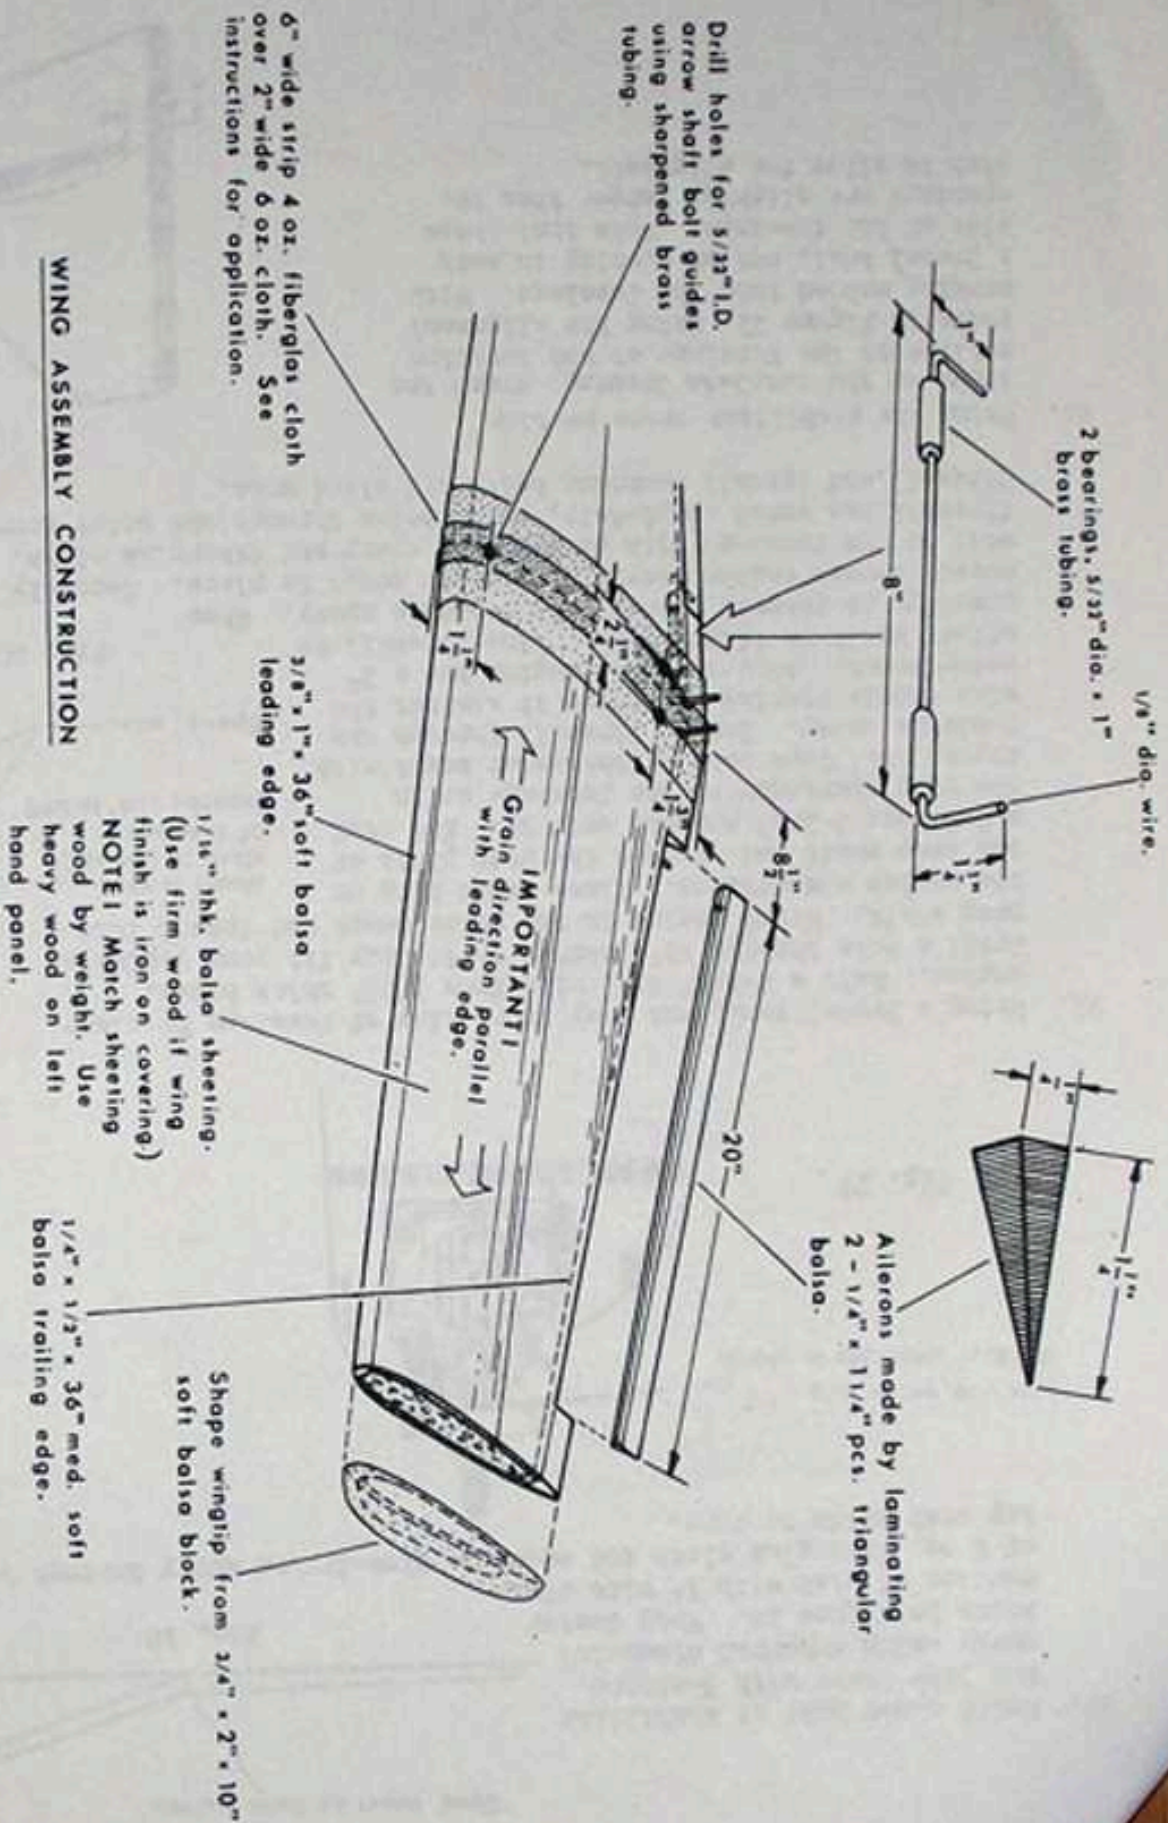

Figure 17
6. Lay the wing core in the foam saddle back onto the work surface. Glue sufficient pieces of 1/16" thick balsa with Hot Stuff to cover the wing. Use firm wood if the wing finish is to be an iron-on covering. Be sure and match sheeting wood by weight. Use the heavy wood on the left wing panel. Rough cut the sheeting to the outline of the wing. Coat one surface of the core and one surface of the wing sheeting with contact cement. Allow it to dry thoroughly before proceeding further. Note in figure 17 that the grain direction of the wing sheeting is important.
14. Refer to wing assembly construction drawing (figure 17) and install aileron actuating assemblies. Fabricate ailerons from two $1/4"$ x $1-1/4"$ x $20"$ triangular balsa laminated together. Refer to dimensions given in figure 17 and mark where aileron joins the wing. Cut slots for aileron hinges exactly on centerline of trailing edge. Cut matching slots in ailerons and trial fit, but DO NOT glue in place.